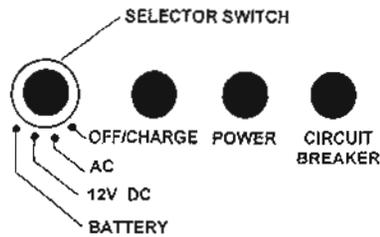

Figure 3-2. Operating mode selector switch.
a. *Operating mode selector switch (fig 3-2).*